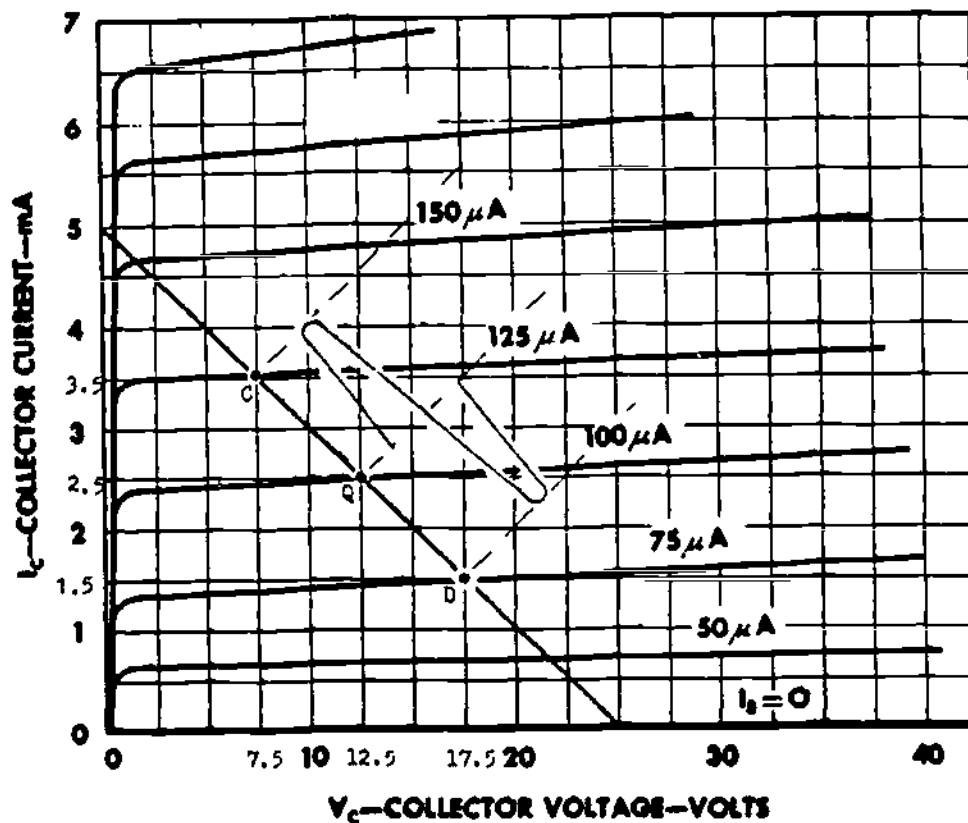

Figure 3-11. Common Emitter Characteristics
where the $I_B = 125 \mu$ A curve crosses the load line (point C in Figure 3-11). The instantaneous operating point moves up along the load line to point C as the base current increases, then back down, as base current decreases, to the static operating point Q.
the input), the instantaneous operating point moves down along the load line to point D (Figure 3-11). At point D the base current reaches its minimum value of $75 \mu\text{A}$; then moves back up the curve again to the static operating point Q ($I_B = 100 \mu\text{A}$). The total change in base current, which is called ΔI_B , is $50 \mu\text{A}$ ($125 \mu\text{A} - 75 \mu\text{A} = 50 \mu\text{A}$).
3-39. Figure 3-11 illustrates the effect of the input signal on the output current (I_C). At the operating point note that the I_C is 2.5 mA . This is found by drawing a line parallel to the horizontal axis at the operating point (Q). This line will cross the vertical axis (I_C) at the 2.5 mA level. At the peak of the positive alternation of the input signal, the base current is increased to $125 \mu\text{A}$, located on the load line at point C. The collector current at point C is 3.5 mA . At the peak of the negative alternation, I_B decreases to $75 \mu\text{A}$, located on the load line at point D. The decrease in I_B will
3-41. Figure 3-11 also illustrates the effect of the input signal on the output voltage (V_C). At the operating point, the static V_C can be found by dropping a line from the operating point perpendicular to the horizontal axis. This line crosses V_C at 12.5 volts. At the peak of the positive alternation of the input signal, the base current increases to $125 \mu\text{A}$, located on the load line at point C. A line dropped from point C would indicate a decrease in collector to emitter voltage from 12.5 volts to 7.5 volts. At the peak of the negative alternation of the input signal, I_B decreases to $75 \mu\text{A}$ (point D) and the collector to emitter voltage would increase to 17.5 volts. The total change in collector to emitter voltage is called ΔV_C and is equal to 10 volts ($17.5\text{v} - 7.5\text{v} = 10 \text{ volts}$). From your analysis of the effects of the input signal or transistor operation, this important fact should now be more evident. As I_B increases, I_C increases, and V_C decreases.
Current Gain = $\frac{\text{output current change}}{\text{input current change}}$. This current gain under operating conditions is called CURRENT GAIN (A_i). The A stands for gain and the subscript "i" stands for current. The total output current change (ΔI_C) in the circuit we have been discussing is 2 mA (Refer to Figure 3-11 and Step 4). The total input current change (ΔI_B) is $50 \mu\text{A}$ (Refer
The total output voltage change (ΔV_C) we found to be 10 volts. (Refer to Figure 3-11 and Step 5). The total input voltage change (ΔV_{BE}) is .15 volts. (Refer to Figure 3-12B and Step 3). The voltage gain is: